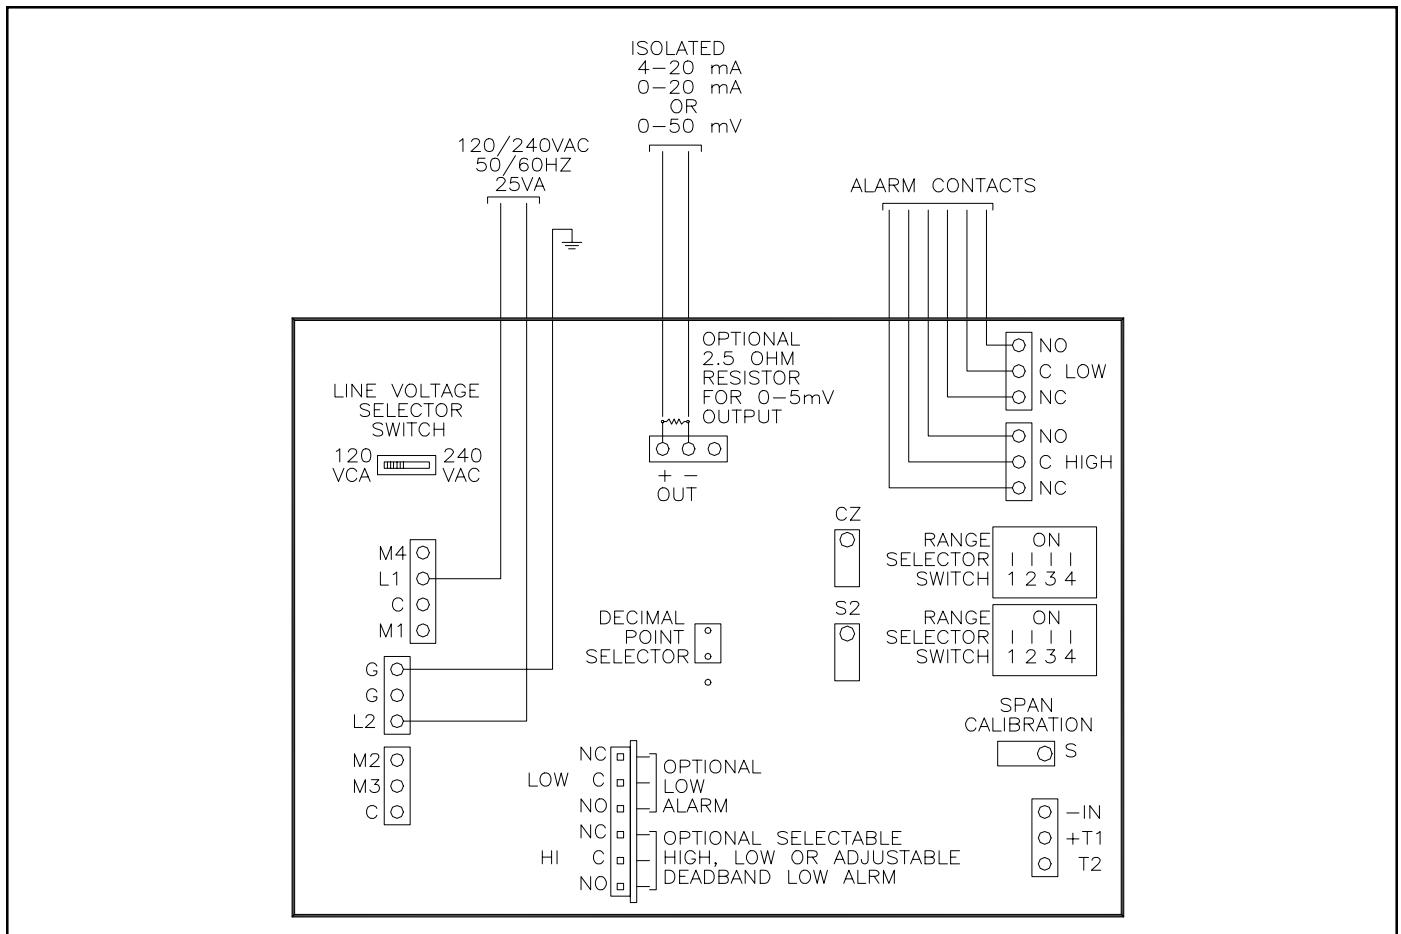

Figure 7 - Wiring Diagram
- a. Remove four (4) screws securing the clear cover and remove the cover.
- b. Remove four (4) screws securing the face plate. Remove the face plate.
- c. Set the line voltage Selector Switch to the proper voltage. If necessary, remove the plastic strap on the switch. See Figures 7 and 19.
- e. Connect the power wiring to the L1, L2, and G terminals. See Figure 7.
- f. Connect current output and alarm contacts, **NOTE:** Do not run line voltage and low level signal voltage in the same conduit. See Figure 7.
The high/low/latching alarms are a field mountable option. Refer to Figures 7, 8, and 20 and plug the alarm board into the J3 receptacle on the main printed circuit board. Secure with the two (2) 4-40 X 1/4" screws supplied.